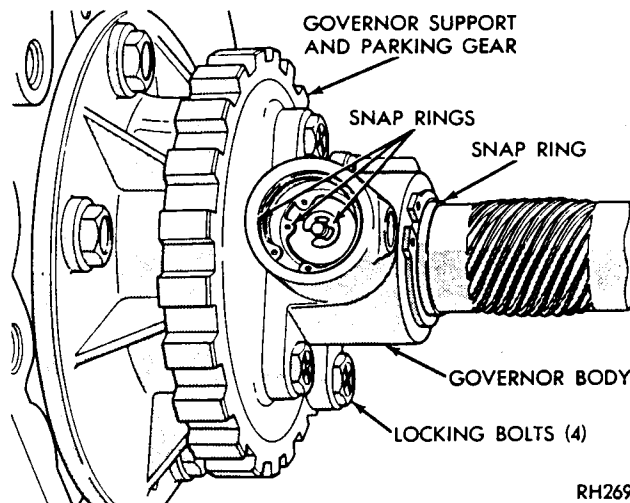
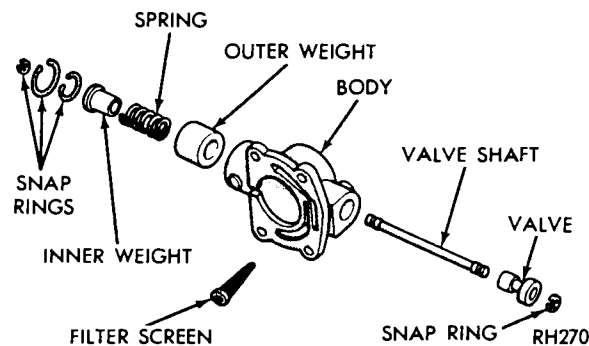

Fig. 10—Governor Snap Rings
Fig. 11—Governor Assembly
(1) Remove extension housing and output shaft bearing as previously described.
(2) Carefully pry snap ring from weight end of governor valve shaft (Fig. 10). Slide valve and shaft assembly out of governor body.
(3) Remove large snap ring from weight end of governor body, lift out governor weight assembly.
(4) Remove snap ring from inside governor weight, remove inner weight and spring from the outer weight. Figure 11 shows a disassembled view of the governor assembly.
(5) Remove snap ring from behind governor body, then slide governor and support assembly off the output shaft. Remove the 4 bolts and separate gover-
Figure 11 shows a disassembled view of the governor assembly.
output shaft. Align assembly so valve shaft hole in governor body aligns with hole in the output shaft, then slide assembly into place. Install snap ring behind governor body (Fig. 10). Tighten the body to support bolts to 95 in. lbs. (11 N-m). The support bolts have a self-locking nylon patch and can be re-used.